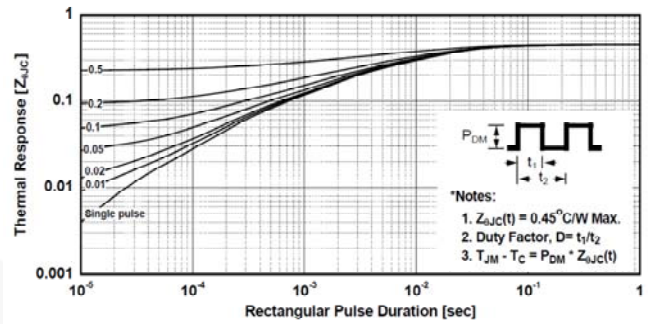
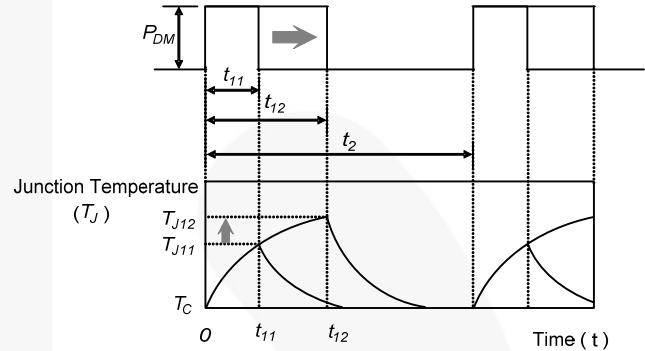

Figure 27. Transient Thermal Response Curve
Figure 28. Resistance; Charge in Junction Temperature due to Conduction Time
Figure 27 shows the thermal response curve. As shown in Figure 27, the graph of the thermal response, shows the change of junction-to-case thermal impedance ($Z_{\theta JC}(t)$) due to the change of the square-wave pulse duration with a few duty factor conditions. $Z_{\theta JC}(t)$ determines the junction temperature rise with the equation (14). (Considering power dissipation to be a constant value (P_{DM}) during the conduction period, it becomes saturated to the maximum value of ($R_{\theta JC}$) as it reaches low frequency or DC operation where the duty factor $D=1$. Figure 28 shows the junction temperature rise with the increasing duty factor.